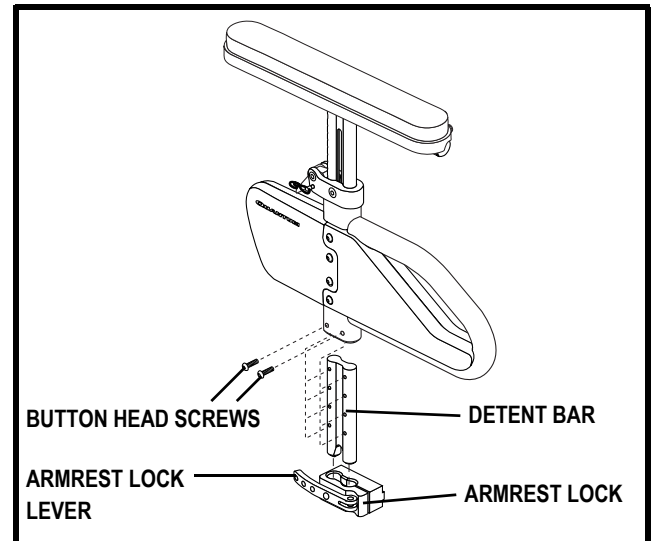

Figure 18. Armrest Bottom Height Adjustment
1. Remove the two button head screws from the detent bar. See figure 18.